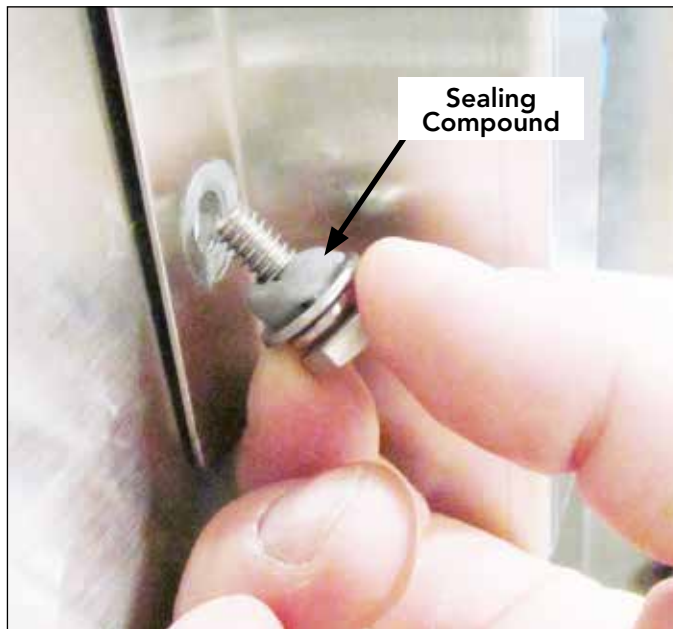

Fig. 5
6. Apply a small bead of sealing compound to the (4) fasteners saved in step 4. Secure the guide cover end of the splash shield to the machine (Fig. 5).